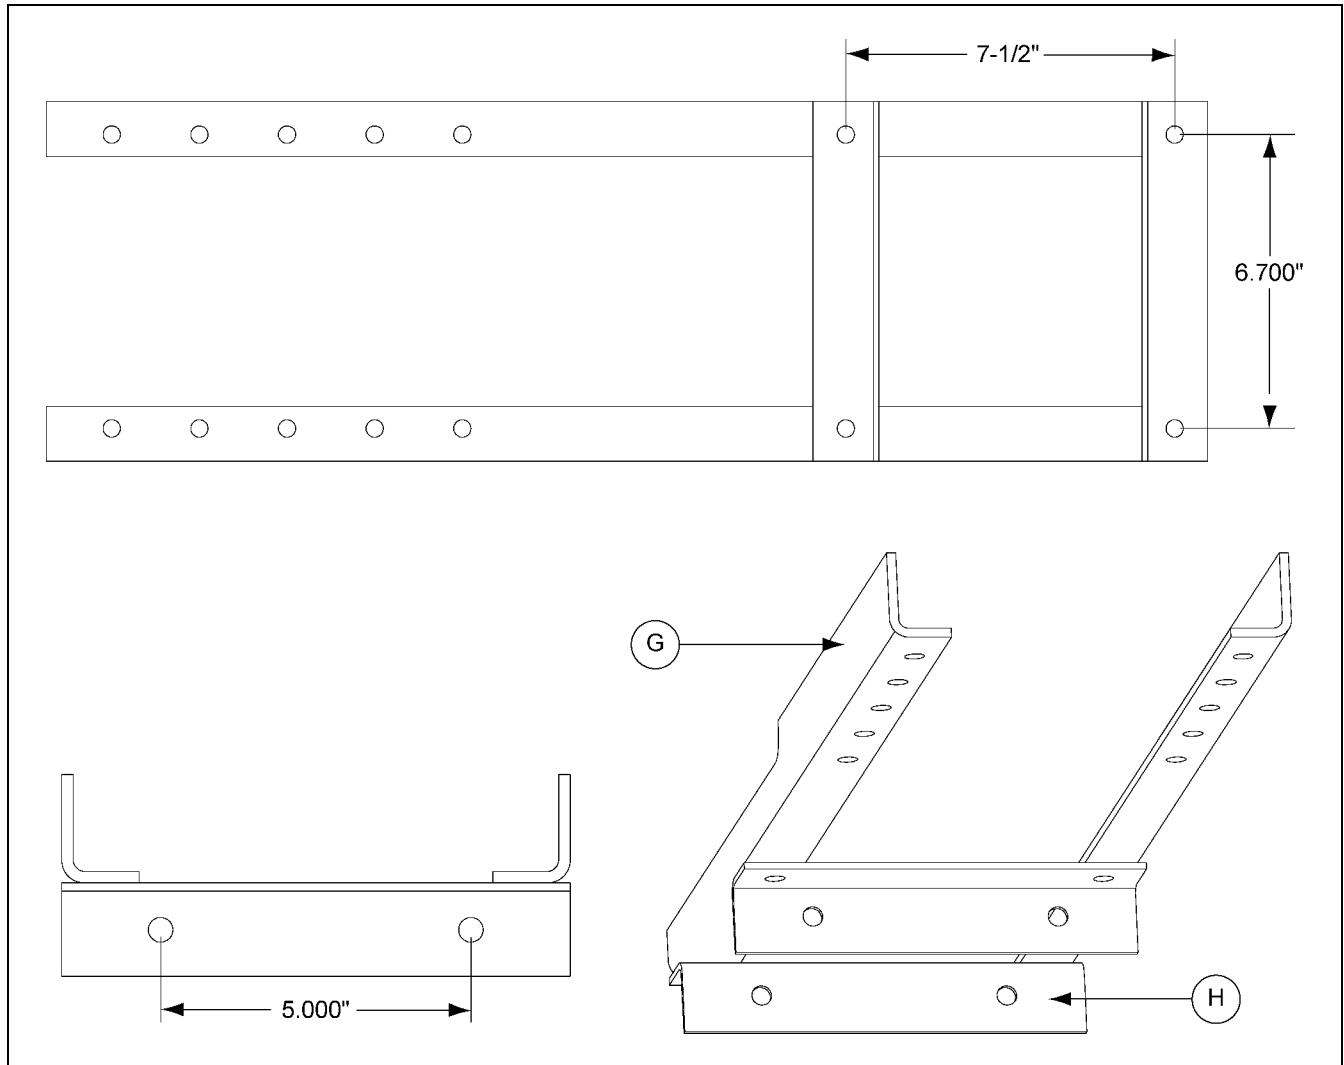

Figure 5
3. Attach the support arms (G) to the lower angle brackets (H) using the supplied flange bolts. *(See Figure 5 on Page 5.)*
4. Use the two (2) long bolts to secure the weights to the support arm.